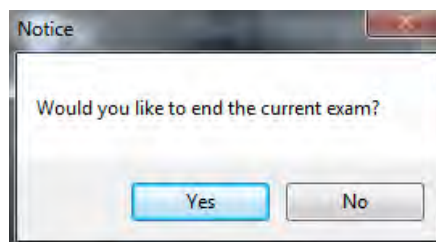
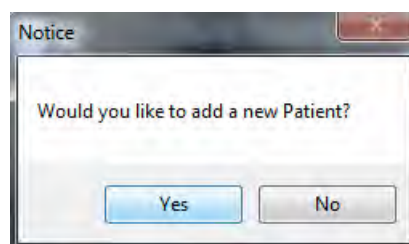

Figure 80: End Exam notice
Figure 81: New ID notice
- e) **End Exam:** To end the current exam. Use the trackball to move the cursor to **End Exam** and then click on **Set** and a dialogue box appears on the screen (Figure 80). Use the trackball to move the cursor to **Yes** and click on **Set** to confirm the ending of the current examination or select **No** to not end the current examination. If End Exam is selected, the system displays a prompt to add a new patient (Figure 81). Depending on the situation, the user can choose **Yes** or **No**.